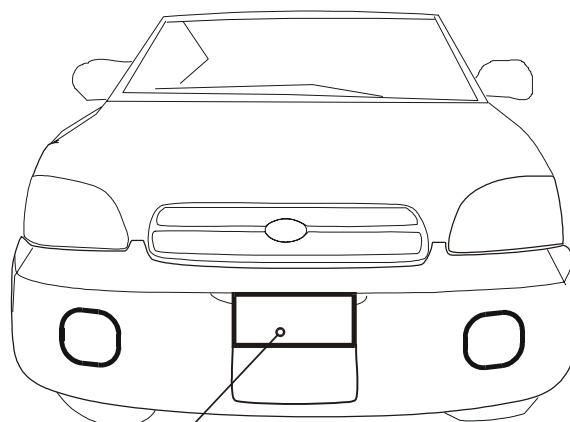

Fig. 2
2. Raise the hood and secure it in place. Take the hood cover with the embossed logo and carefully insert it over the hood. The part with the embossing is the top part. The hood piece was designed to be snug and its front shape exactly matches the shape of the hood. Make sure the cover fits properly before attaching the hooks. To attach the hooks, hold the hook **firmly** and pull it to the direction of the attaching point (Fig. 2). Attach both hooks under the hood. Make sure the underside of the cover does not interfere with the locking mechanism of the hood. Close the hood and see if it locks. Readjust if necessary.